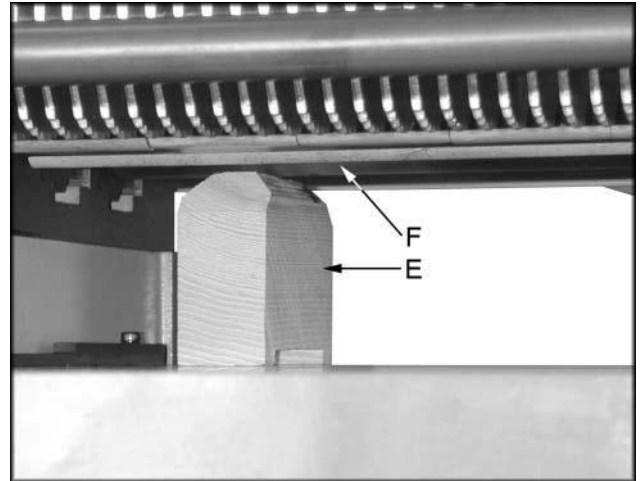

Figure 19
4. Remove feeler gauge and place wood block (E, Fig 19) under the left side of out-feed roller (F, Fig 19).